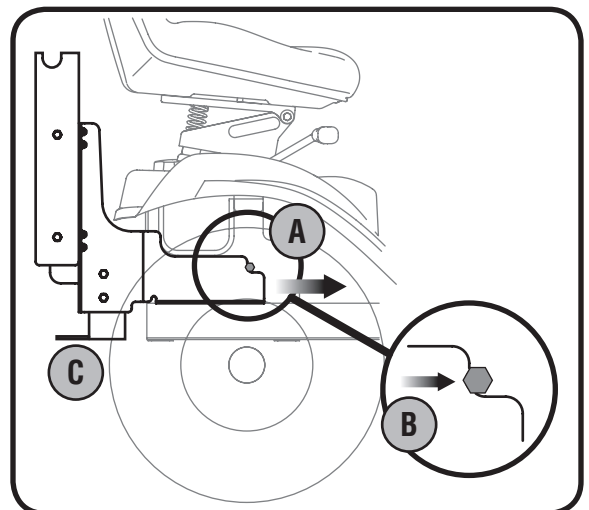

Figure 3-3
4. Push the hooked ends of the bracket assembly in (A) and under the shoulder bolts (B) and swing in the bottom down over the hitch plate aligning with the hole on the hitch plate (C). See Figure 3-3.